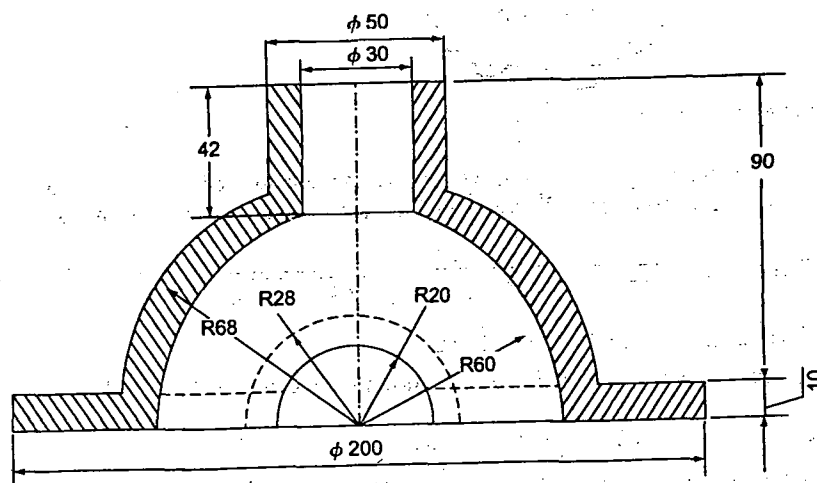

Figure .1.
12. a) Calculate the gating requirements for casting shown in figure .1 to be cast in C30 steel.